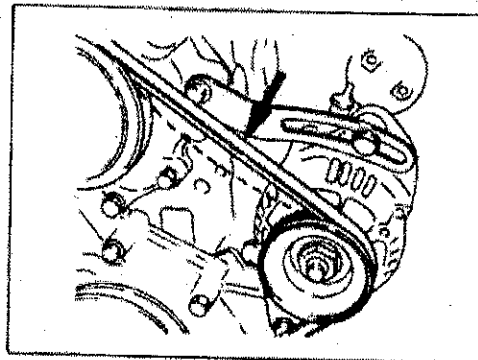

Fig 8 Fan belt tension
- 34 Check the fan belt for tension and abnormalities (Fig 8). When the belt is depressed **about 10 mm (0.39 in)** with the thumb (about 100 N (22 lb) pressure) at midway between the fan pulley and generator pulley, the belt tension is correct.